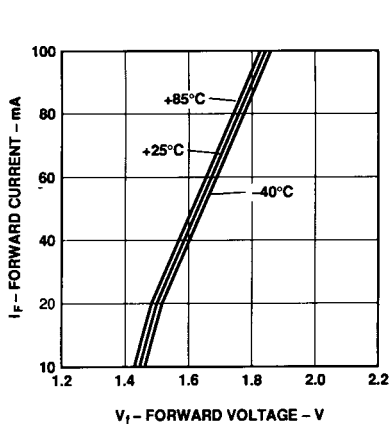

Figure 9. Forward voltage and current characteristics.
*Example for  $I_{F\text{ ON}} = 100 \text{ mA}$ :  $V_F$  can be obtained from Figure 9 (= 1.84 V).*